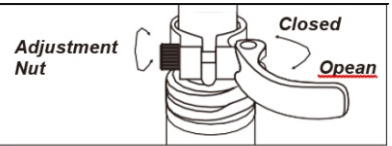

Fig.8 Opening and adjusting a quick release
5. Open the seat post quick release lever(Fig. 8). Insert the seat post into the seat tube to a sufficient depth so that the minimum insertion line is no longer showing.